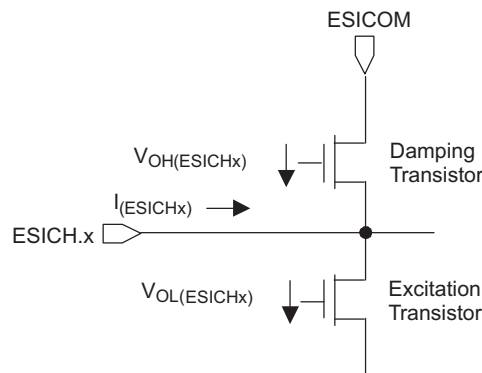

Figure 4-22. Voltage Drop Due to ON-Resistance
(1) ESICOM = 1.5 V, supplied externally (see Figure 4-22).